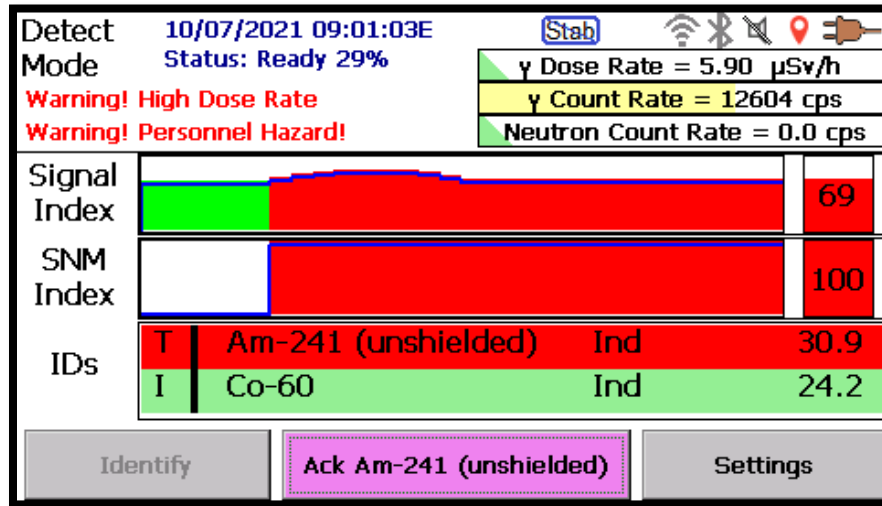

Figure 57. Threat Source Shown in ID List
In cases where there are multiple IDs and simultaneous alarms, the index charts will display the color of the highest priority alarm, and the highest-priority (highest threat-level) alarms will be displayed first in the list, as illustrated in Figure 57.
- If alarm acknowledgement is enabled (Section 4.5.1), the **Ack** (acknowledge) button will be displayed (refer back to Figure 57) and each ID must be acknowledged before proceeding, just as in Detect Mode.